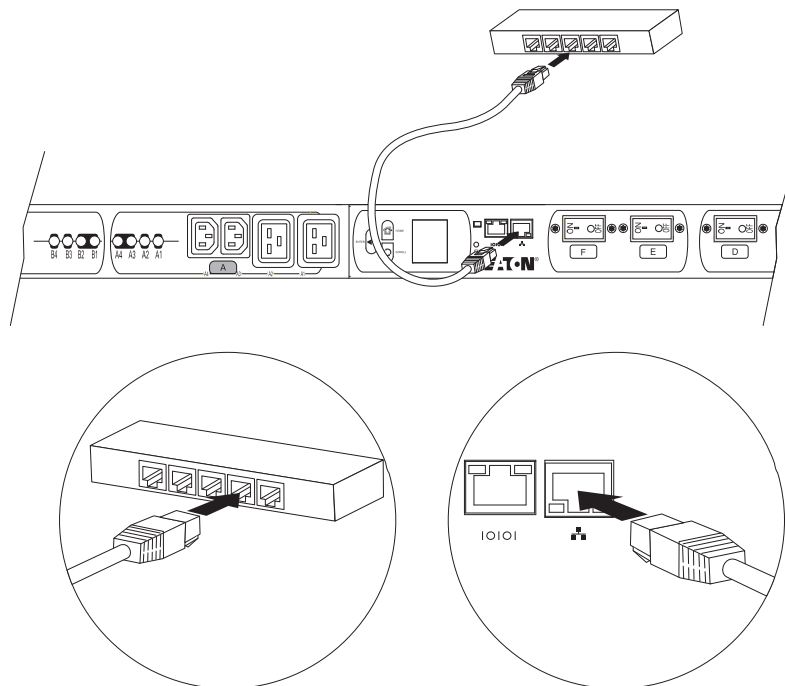

Figure 17. Connecting the ePDU to a LAN
- Connect one end of the cable to the Ethernet connector on the ePDU. Connect the other end of the cable to the Ethernet connector on the router (or other LAN device). See Figure 17.